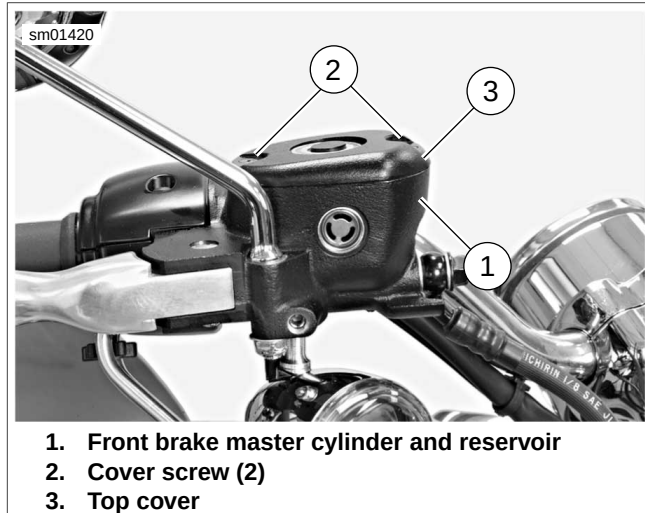

Figure 1-9. Front Brake Master Cylinder Reservoir (typical; XL model shown)
- See Figure 1-9. Position motorcycle so that top of front master cylinder reservoir (1) is level.